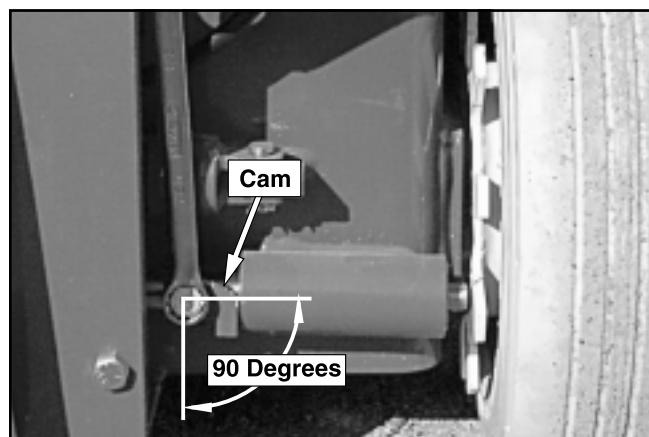

Figure 10.1—Brake Release Cam
5. Use a \$ wrench to rotate each brake release cam 90° (refer to Figure 10.1). Rotate the cam on the right brake cylinder counterclockwise and the one on the left brake cylinder clockwise. This will retract the brake pins from the wheel lugs releasing the brakes. Remove the wrench.